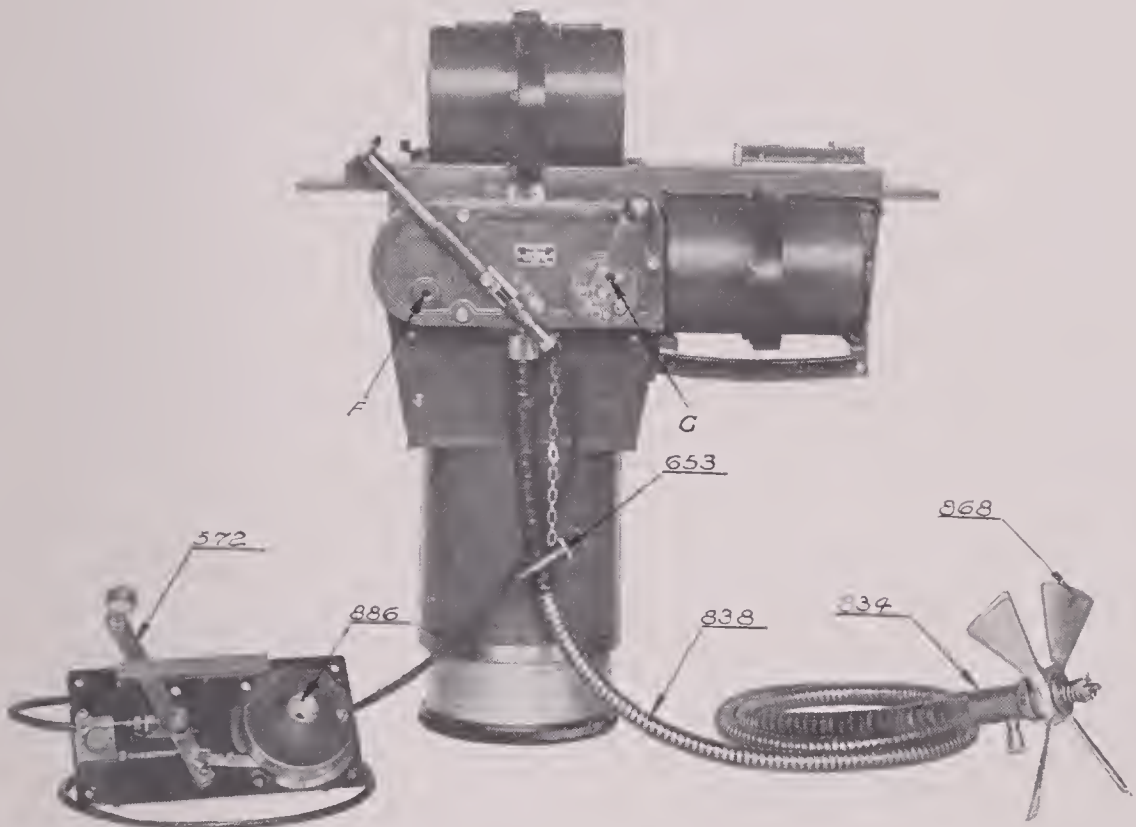

Figure 2
10. Fig. 2 shows a general view of the apparatus arranged for automatic operation.
17. In order to insert the shutter setting lever pin No. 653 in the socket "F" (Fig. 2) for hand operation, it is necessary to operate the
42. An indicator is incorporated with the release which records the number of exposures made. Before attaching the cable to the camera or opening the loaded magazine, set the indicator at zero by turning the Counterset Button No. 886. (See Fig. 2).